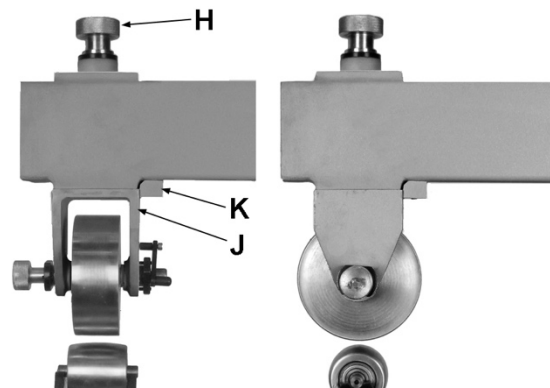

Figure 6-4
1. Turn adjustment knob (H, Figure 6-4) counterclockwise until upper wheel housing (J) clears frame block (K).
2. Turn upper wheel housing 90-degrees and raise it by turning adjustment knob (H) clockwise until housing is properly seated.